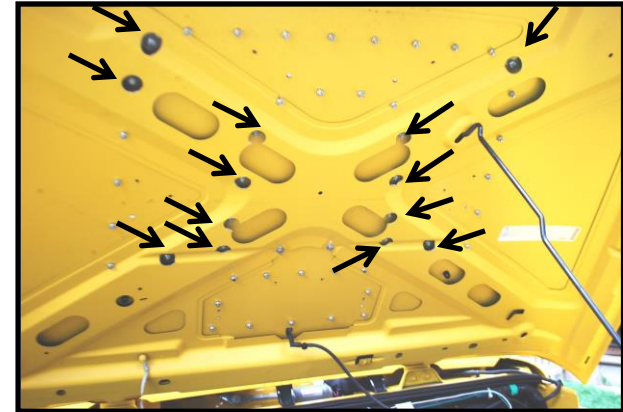

Figure 3
**\*\*NOTE\*\*** You will need to use the 1" hole saw to expand some holes drilled in the hood support frame from underneath the hood, 13 times. See (Figure 3)